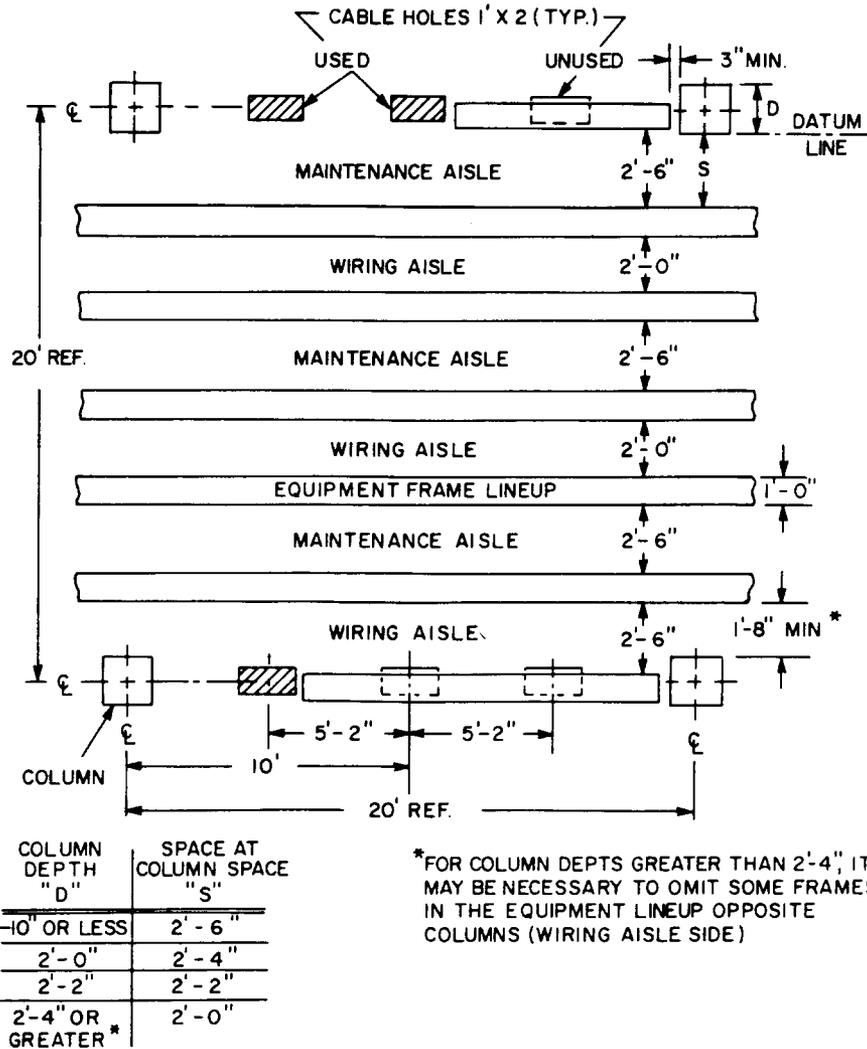

Fig. 1—NEBS Standard Floor Plan for Principal Depth 12-Inch Frame
2.01 The use of standard aisles for 12-inch and 18-inch frames (Fig. 1 and 2, respectively) establish minimum aisle-spacings after proper consideration of certain pertinent factors. Such factors are those associated with operations and maintenance, installation of frames and cabling, cooling and lighting, floor loading, and cable densities. The NEBS 7-foot frames with cabling in standard floor plan arrangements impose reasonable loads on the 150-psf designed floor. Also, air diffusing into the standard aisles from the 10-foot level permits lower energy air-conditioning systems compared to those needed for equivalent high bay installations.